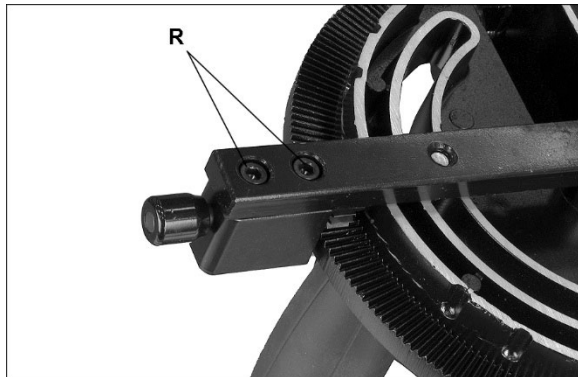

Figure 8-3
4. Adjust body (K) until it is square (90°) to miter slot.
5. Tighten lock handle (H).
6. Verify that scale indicator (L) reads 0°. If it does not, loosen screw (P) and adjust indicator (L) until it reads 0°. Retighten screw (P).
- If the above procedure does not satisfactorily align the miter gauge, loosen two screws (R, Figure 8-3) beneath mounting block and shift block as needed. Retighten screws when finished.